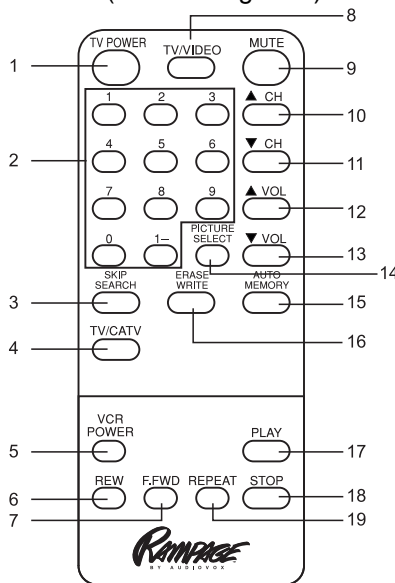

Figure 4
N. Remote Control Operation (Refer to Figure 4)